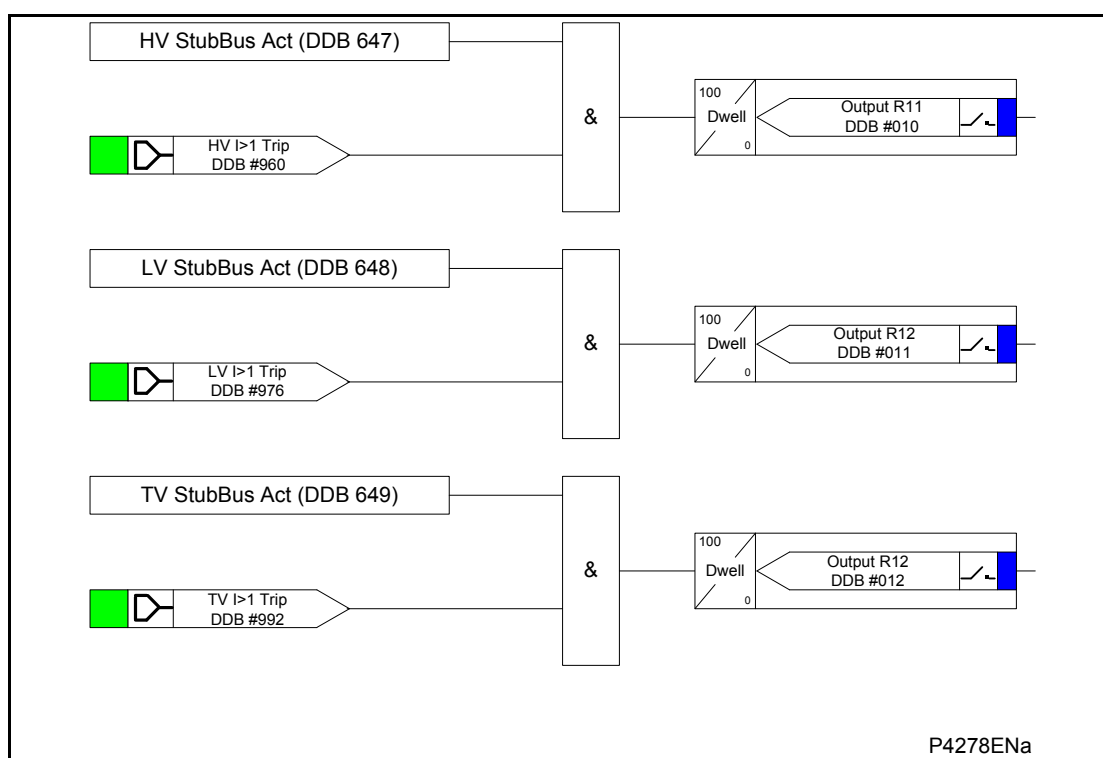
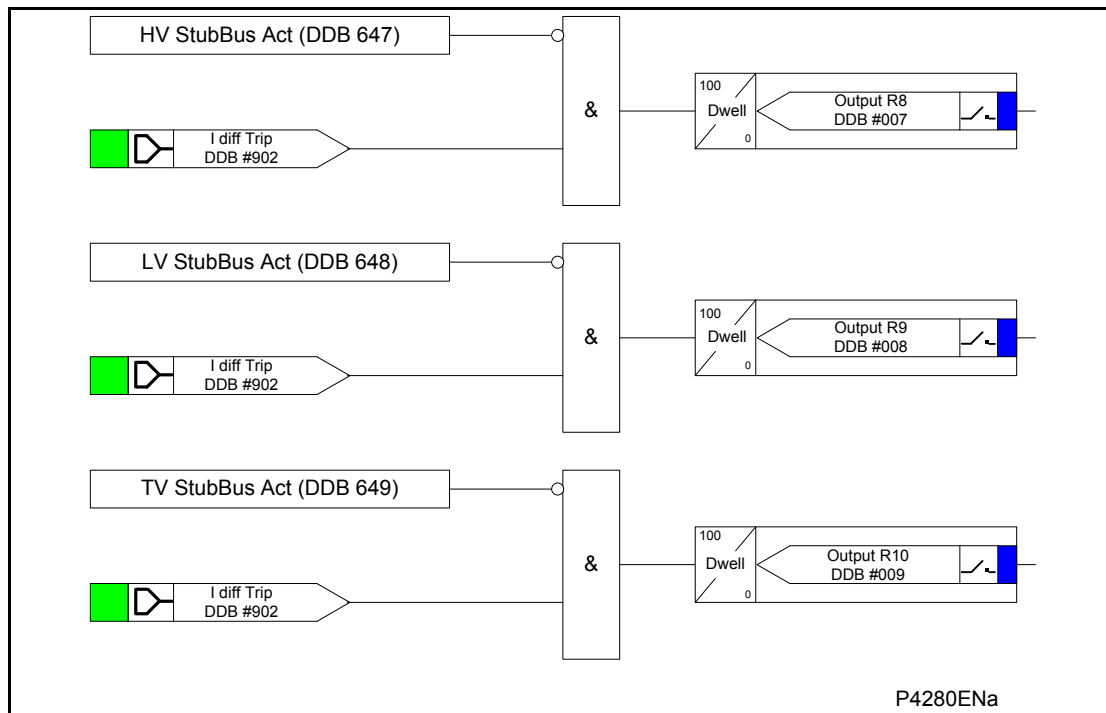

Figure 29: Stub bus trip
Figure 31: Differential trip blocked due to stub bus activation
The differential and REF protections should not trip for a stub bus fault. Therefore, the differential trip may be blocked on a per winding basis if the PSL given in Figure 31 is used. The signals HV StubBus Act (DDB 647), LV StubBus Act (DDB 648) and TV StubBus Act (DDB 649) are asserted when the appropriate conditions are met as shown in Figure 29. The REF is blocked internally on a per winding basis by the fixed logic. For example, if HV StubBus Act (DDB 647) is activated, then HV REF is blocked.
The stub bus can be protected by a non-directional DT phase overcurrent element with a delay time set to zero seconds. To issue a stub bus trip, the overcurrent element and the StubBus Act DDB signal must assert. This can be configured in the PSL, and it is shown in Figure 29.
Whenever stub bus is activated, the current signals from the winding whose isolator is open are not taken into consideration in the calculation of the differential and bias currents. For example, if a fault occurs within the protected zone and the low voltage stub bus is activated, the differential element would only trip the breakers connected to the high and tertiary sides of the transformer if the configuration shown in Figure 31 is used. Considering a lockout relay (86) per circuit breaker, the trip output contacts may be configured as shown in Figure 31.
In applications where the 86 is per differential scheme, it is not possible to apply the logic in Figure 31 since the differential protection trip will be blocked each time any stub bus is activated. Therefore for this application, the stub bus protection can not be used.
If the reset option is set to I<Only, then the INTSIG Latch ResetState signal shown in Figure 31 is always zero. In this case the zero crossing detection algorithm prevents the re-trip and back-trip signals from asserting.